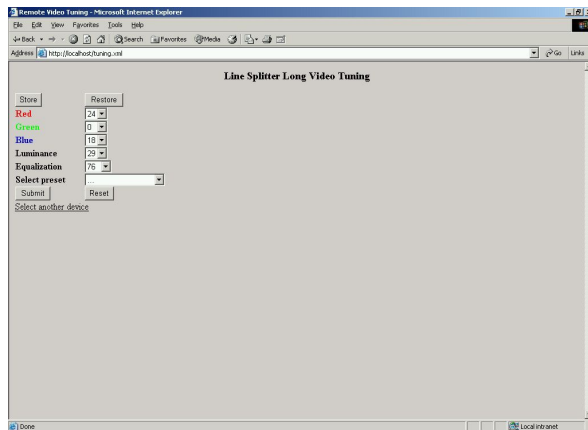

Figure 28 Remote tuning web page
3. Select a unit and press **Submit**. The tuning page appears, see Figure 28.